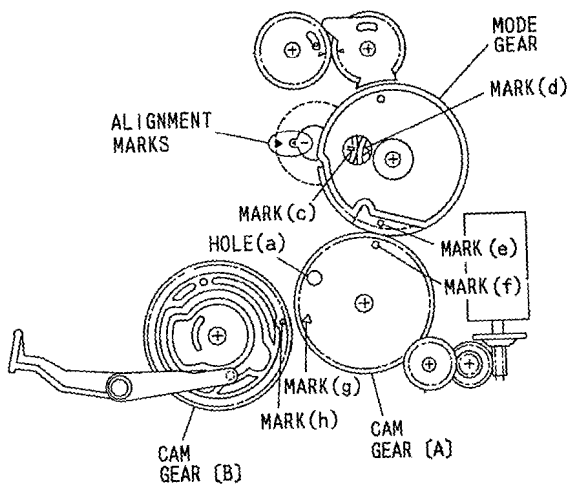

Fig. 4-24
- 1) Align mark (f) on cam gear [A] and mark (e) on the mode gear. (See Fig. 4-24)
- 2) Align the arrow on the MWB (sensor) P.C.B and arrow (No.1) on the mechanism state switch. (See Fig. 4-24)
- 3) With the above conditions, align mark (c) on the mechanism state switch and mark (d) on the mode gear. (See Fig. 4-24)
- 1) Align hole (a) in the cam gear [A] and the hole in the chassis. Also align mark (f) on the cam gear [A] and mark (e) on the mode gear. (See Fig. 4-24)
- 2) Align mark (h) on the cam gear [B] and mark (g) on the cam gear [A]. (See Fig. 4-24)